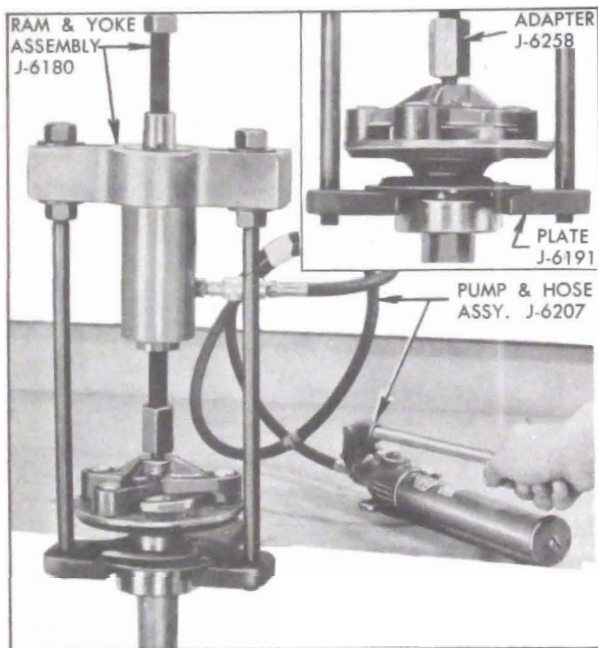

Figure 6-5—Removing Rear Wheel Bearing
2. Press the wheel bearing off, using Plate J-6191 either in a press or in a set-up using Ram and Yoke Assembly J-6180 and Adapter J-6258 as shown in figure 6-5.